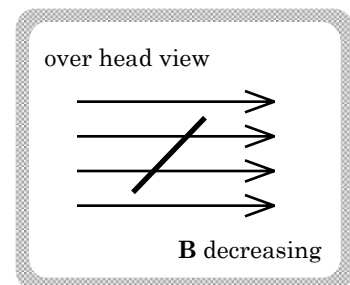

FIGURE 17.12
b.) The external \mathbf{B} -field in Figure 17.12 is decreasing. The only way to *oppose* its *decreasing magnetic flux* is to produce a second magnetic flux that adds to the original flux. In other words, we need a current that will produce a \mathbf{B} -field *in the same direction* as the external \mathbf{B} -field, or to the right.